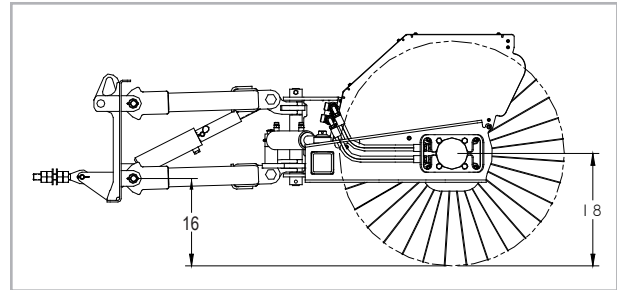

figure 1.
4. Check to see if broom is level when angled. Swing the sweeper to the right; stop the tractor. Then, on both sides of the sweeper measure from the ground to the bottom of the brush frame (figure 1).